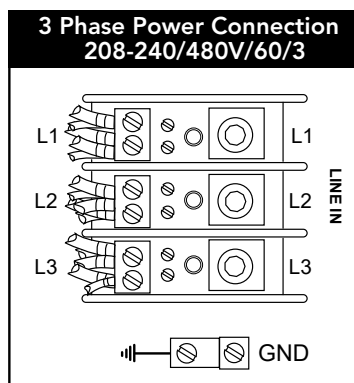
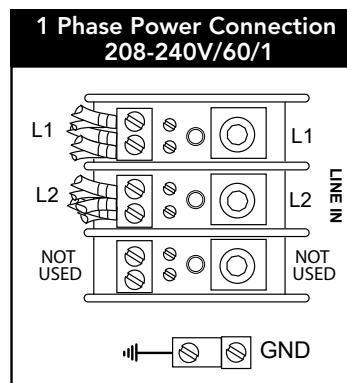

Fig. 15 - Three phase connection
Fig. 16 - Single phase connection
- Fig.15 and Fig.16 illustrate the 3-phase and 1-phase power connections.